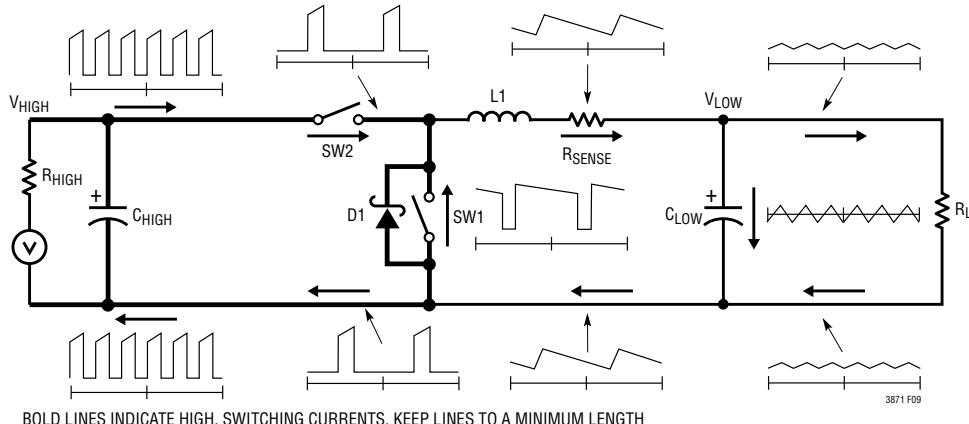

Figure 9. Branch Current Waveforms (Buck Mode Shown)
When laying out the printed circuit board, the following checklist should be used to ensure proper operation of the IC. These items are also illustrated graphically in the layout diagram of Figure 9. Check the following in the PC layout:
8. The 47pF to 330pF ceramic capacitor between the ITH pins and signal ground should be placed as close as possible to the IC. Figure 9 illustrates all branch currents in a switching regulator. It becomes very clear after studying the current waveforms why it is critical to keep the high switching current paths to a small physical size. High electric and magnetic fields will radiate from these loops just as radio stations transmit signals. The output capacitor ground should return to the negative terminal of the input capacitor and not share a common ground path with any switched current paths. The left half of the circuit gives rise to the noise generated by a switching regulator. The ground terminations of the synchronous MOSFET and Schottky diode should return to the bottom plate(s) of the input capacitor(s) with a short isolated PC trace since very high switched currents are present. External OPTI-LOOP® compensation allows overcompensation for PC layouts which are not optimized, but this is not the recommended design procedure.